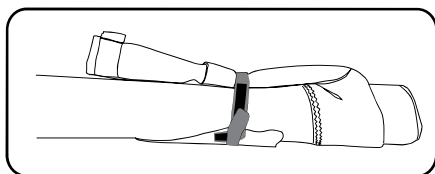

Fig. 9: After rolling, tuck the pad, then wrap with the tack strap and secure the velcro.
- After rolling the sail, tuck the pad so it rests along the sail, wrap the tack strap around the pad and the sail, then attach the velcro (fig. 9).